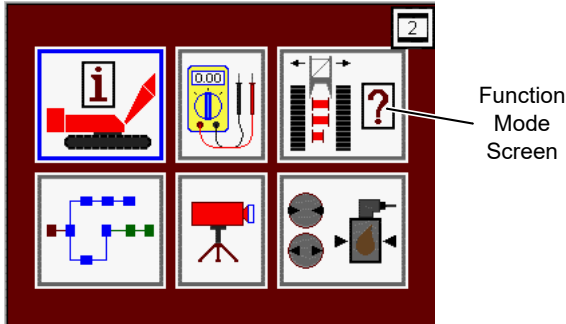

FIGURE 3-11
1. Enter the function mode screen in the main display (Figure 3-11).